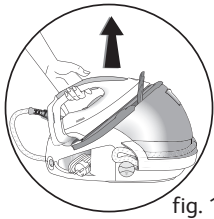

fig. 1
Your steam generator is equipped with a retaining clip which locks the iron on its base for easier transport and storage - **fig.1**:
- Grasp the handle of the iron to carry your steam generator - **fig.1**